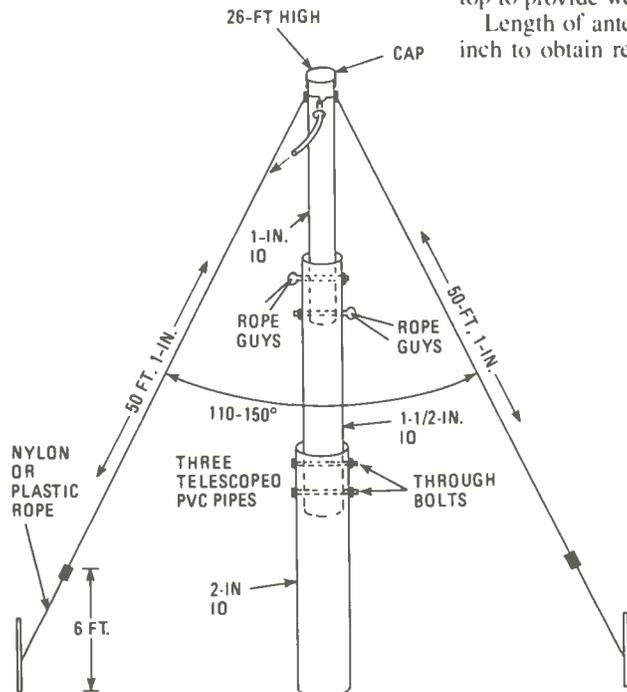

Fig. 1—Three-section PVC mast and inverted long-wire antenna for 20 meters.
□ THE INVERTED LONG-WIRE IS AN EASY-to-erect long-wire antenna. At the usual antenna mounting heights, such a long-wire antenna displays some gain from its two ends at low-radiation angles that are favorable for DXing (Fig. 1). The inverted long-wire is center-fed. Antenna leg lengths are such that a low impedance is seen by the transmission line. That condition is met by making each antenna leg an odd multiple of a $\frac{1}{4}$ -wavelength. An example was given in the previous column for a 15- to 40-meter antenna that had $\frac{3}{4}$ -wavelength legs on 15 meters. The inverted long-wire antenna described here operates as a dipole on 80 meters, $\frac{3}{2}$ -wavelengths on 20 meters, $\frac{5}{2}$ -wavelength on 15 meters, and $\frac{7}{2}$ -wavelength on 10 meters.
The basic cut (leg lengths) was made for operation as a $\frac{3}{2}$ -wavelength antenna on 20 meters. Short add-ons were then used to tune the antenna for other bands. In our example, the antenna mast was 26-foot high and was constructed of three telescoping sections of PVC piping, as shown in Fig. 1. Inner diameters of the piping from top to bottom were 1 inch, $1\frac{1}{2}$
Pin-out and basic circuit of the dual AND driver version are given in Fig. 1. Each of the dual sections consists of a NAND gate and a follow-up bipolar transistor output. Check out the logic of the AND driver with the appropriate logic chart in Table 1 and Fig. 1. There is no direct pin-out for the output of the NAND gate. The Y output of the NAND gate (Fig. 1) is connected internally to the base of the bipolar transistor. The following bipolar transistor results in a logic inversion. Therefore, the output has a logic corresponding to that which would be obtained from an overall AND gate. Treating the UDN-3611M chip as a black box with one output, it appears to be an AND logic device. The AND operation is the result of
Fig. 1—The UDN-3611M dual gate/power driver is shown schematically (A) within the physical outline of its DIP configuration. A simplified diagram (B) of one driver section is shown. Point Y is not electrically connected to one of the output pins. It is identified for circuit discussion in text.